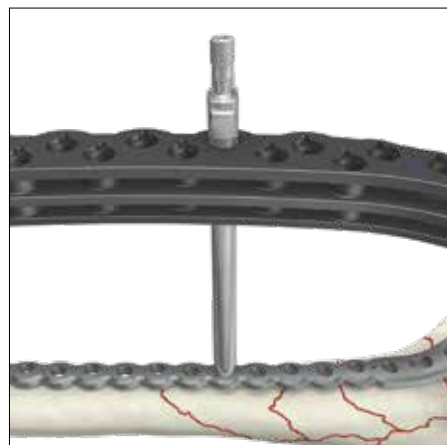

Fig. 19
Remove the trocar and replace it with the drill sleeve (ref 703572). Insert the trocar Ø2.5mm (ref 703584) and manipulate the assembly into the plate hole. Lock the drill sleeve and remove the trocar (fig. 19).